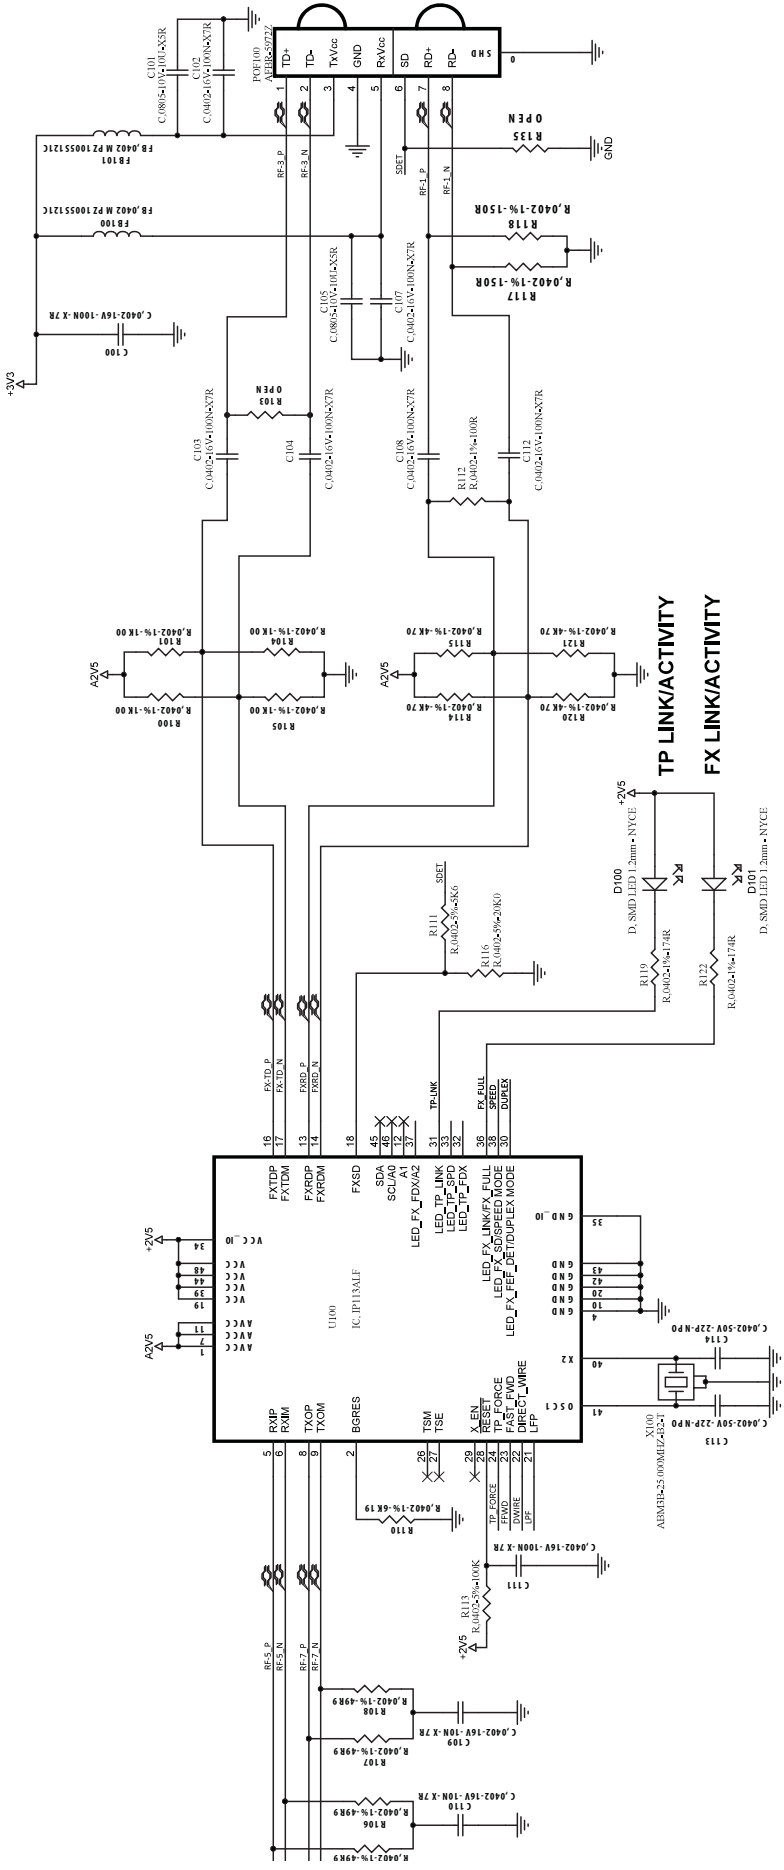

Figure 2. AFBR-0545Z Media converter board schematic
The schematic for the AFBR-0545Z media converter board is shown in Figure 2. The data signal from the twisted pair medium is routed through magnetic (part of RJ 45 jack) to the IC Plus IP113ALF input media converter input pins (RXIP and RXIM). The IP113ALF is configured for 100 Mbps full duplex mode. The transmitter output of the IP113ALF (FXTDP and FXTDM) is AC coupled to the input of the Avago AFBR-5972Z transceiver module through a differential transmission line with a 100 Ω impedance. Resistor R103 is not populated because AFBR-5972Z has an internal 100 Ω resistor for termination (see AFBR-5972Z data sheet). Resistor R112 provides a 100 Ω termination for the receiver of the AFBR-5972Z module. The voltage divider between the IP113ALF and AFBR-5972Z module biases the IP113ALF PHY chip. Resistors R117 and R118 are needed as termination of the receiver output stage of AFBR-5972Z. The signal detect (SD) output signal of the transceiver module is connected to the PHY chip FXSD pin through the voltage divider formed by resistors R111 and R116. The FXSD pin is active when the threshold voltage is higher than 1.35 V.